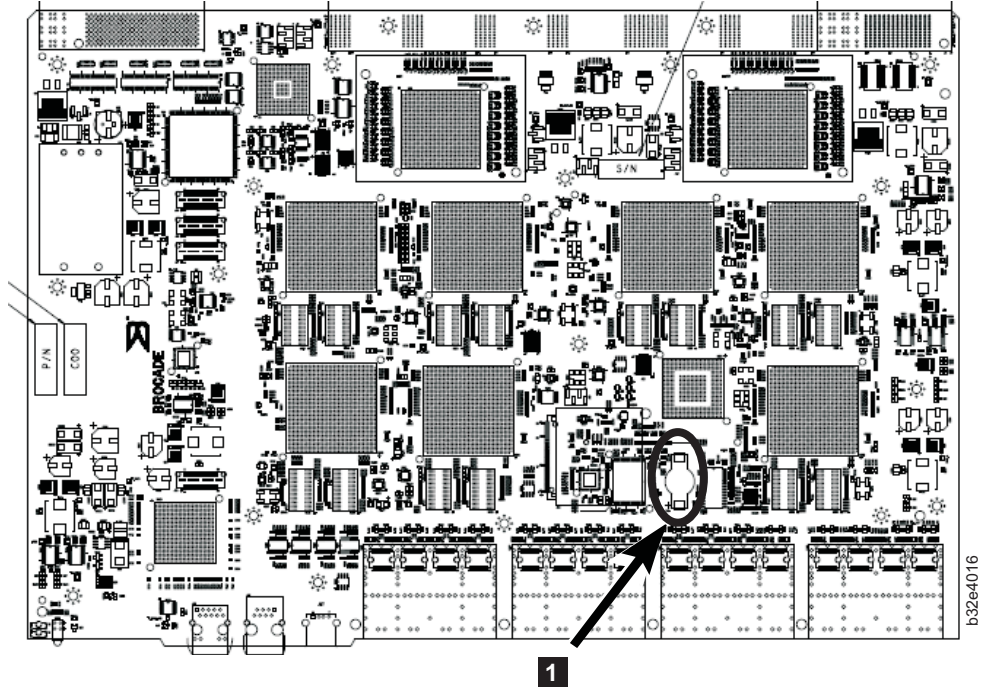

Figure 52. Encryption blade battery location
7. For the optional FS8-18 encryption blade, go to the BC1 location (see **1** in Figure 52 on page 120) on the main board and remove the BR1225 battery.